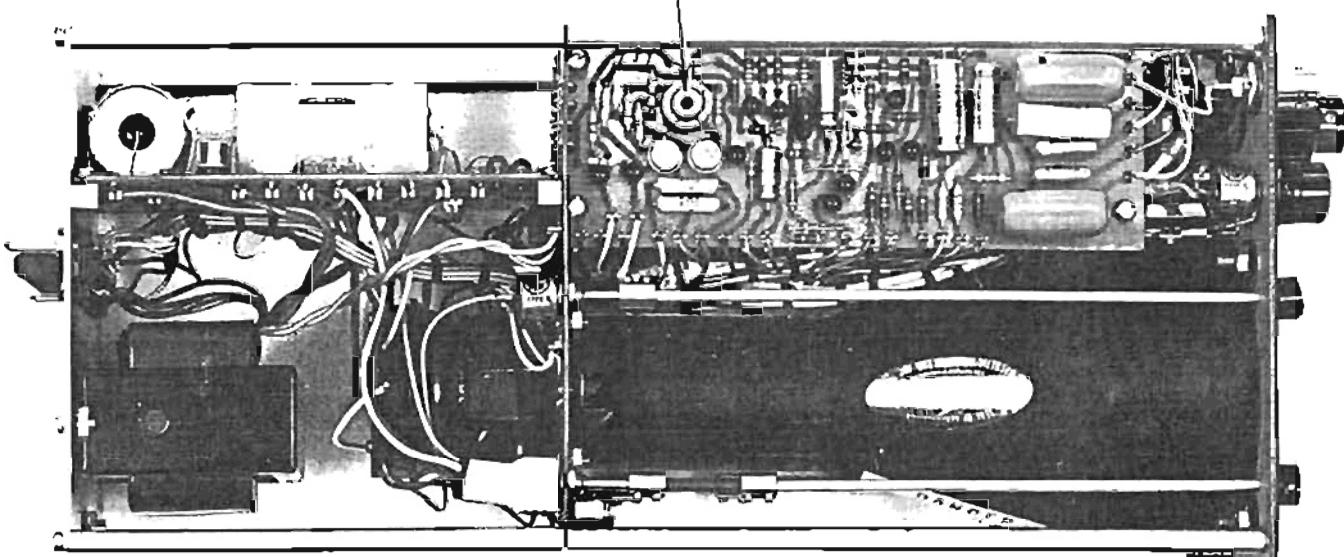

Figure 4-2. Model 301 Oscilloscope, Right-Side View of Interior
4.1.4 Horizontal Gain. An internal gain control on the horizontal amplifier permits adjustment of the sweep length. This control is located on the right side of the Oscilloscope plug-in and cannot be reached with the scope plugged into the Monitor. If the sweep length is short, remove the Oscilloscope from the Monitor and adjust the horizontal gain potentiometer (see Figure 4-2) in the counterclockwise direction.